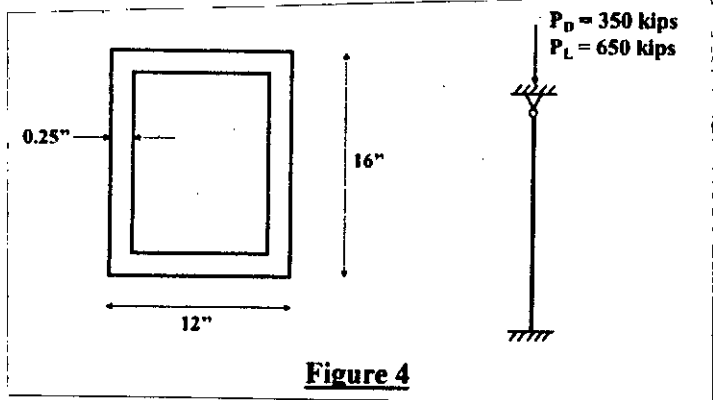
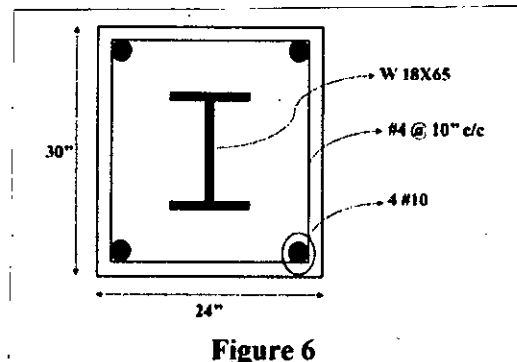

Figure 4
Figure 6
(b) A Concrete Filled Tubular (CFT) column section shown is in Figure 4. Check whether the geometric and material properties of the given section satisfies the AISC code specified limits. (2 1/2)
8. (a) State the assumptions used in Plastic Stress Distribution method for developing P-M interaction diagram of composite column. (5)
- (b) For the Fully Encased Composite (FEC) column section shown in Figure 6, calculate the nominal axial force and bending moment for balanced failure condition of P-M diagram about weak axis bending using plastic stress distribution method. The length of the column is 12 ft and the column is pin-pin connected in both axes. Use AISC-LRFD method. (12 1/2)
9. (a) Calculate the nominal axial load and bending moment for the four points in the P-M interaction diagram about strong axis bending of the Fully Encased Composite (FEC) column shown in Figure 6 using plastic stress distribution method. Show the diagram in a neat sketch. Use the data provided in Question 8(b) as required. (12 1/2)
- (b) Determine the design P-M interaction diagram for the FEC column including the global slenderness effect. Use AISC-LRFD method. (5)
10. (a) Check the design adequacy of the Concrete Filled Tubular (CFT) section shown in Figure 4 for a factored axial compressive load of 250 kips and a factored bending moment of 200 kip-ft about strong axis using interaction equation and simplified version of plastic stress distribution method. Use the data provided in Question 6 as required and follow AISC-LRFD method. (12 1/2)
- (b) Provide your comments on the adequacy check using the two methods. Slenderness effects must be considered. (5)